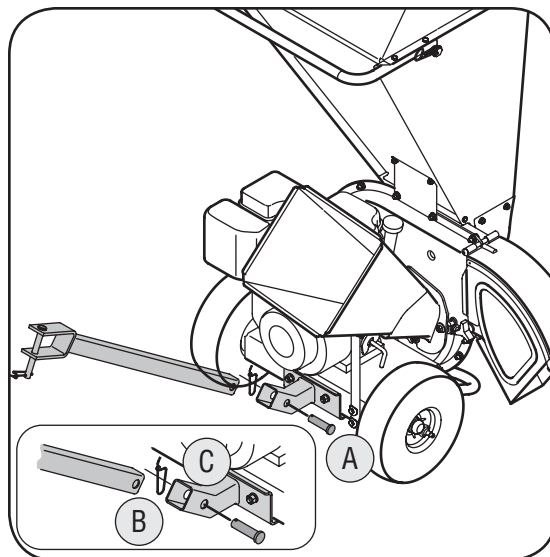

Figure 3
- Remove the spring pin and clevis pin from the end of the tongue. See Figure 3.
- Reinsert the clevis pin through aligning holes in both the tongue and the base. Fasten with the spring pin to secure. See Figure 3.